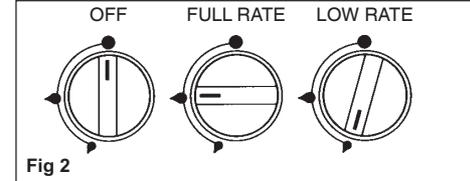

Fig 2
To light the grill, push in the control knob and turn to full rate (see Fig 2). Hold a lighted match or taper to the burner and push the control knob in and hold. It is necessary to hold the knob depressed after the burner has ignited for approximately 10-15 seconds, to allow the thermocouple probe to reach temperature, before releasing the knob. Should the flame go out when the knob is released, the procedure should be repeated holding the knob depressed for slightly longer.
2. To light: Open door, push in the control knob and turn to full rate (see Fig 2). Hold a lighted match or taper to the burner and push the control knob in and hold. The burner should ignite and the control knob should be held in for 10-15 seconds before release. If the burner goes out, repeat procedure holding control knob for slightly longer.